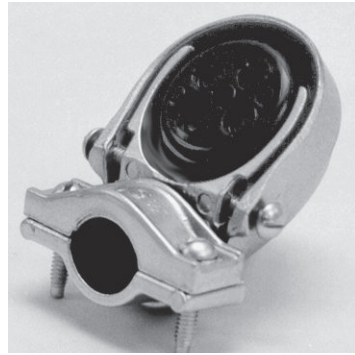

Fig. 16–11 A service head is installed at the top of the conduit through which wires enter the building. (Hubbell Electrical Products)
Figure 16–10 shows the essential elements of this type of service. At the top of the service conduit (point *B* in Fig. 16–10), the *NEC* requires a fitting that will prevent rain from entering the conduit.
A fitting of this type is shown in Fig. 16–11; it is known by various names such as service head, entrance cap, or weather head. It consists of three parts: the body, which is attached to the conduit; an insulating block to keep the wires apart where they emerge; the cover that keeps the rain out and holds the parts together.
Entrance using conduit A typical installation is shown in Fig. 16–10. The size of the conduit and fittings will depend on the size of the service wires as discussed in Chapter 13.
At the point where the conduit enters the building (point *D* in Fig. 16–10), it is customary to use an entrance conduit body of the type shown in Fig. 16–12. With the cover removed, it is a simple matter to pull wires around the right-angle corner. Be careful to observe the sizing rules in *NEC* 314.28(A)(2) and (3) in choosing this fitting. The distance between the centers of the conduit stops (roughly equal to the long dimension of the cover) must not be less than 6 times the trade diameter of the entering conduits, or a full
Fig. 16–12 A conduit body is used at the bottom of the conduit where it enters the building. The one shown doesn't meet the normal spacing rules, so it has an allowable conductor fill as marked.